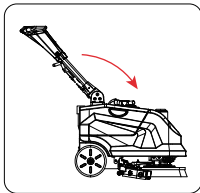
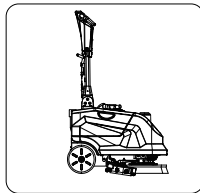

Figure 01
Figure02
1. Adjust the operating handle to a vertical angle with the ground (Figure 01-Figure 02), fill the clean water tank with clean water, ensuring the tank has sufficient clean water.